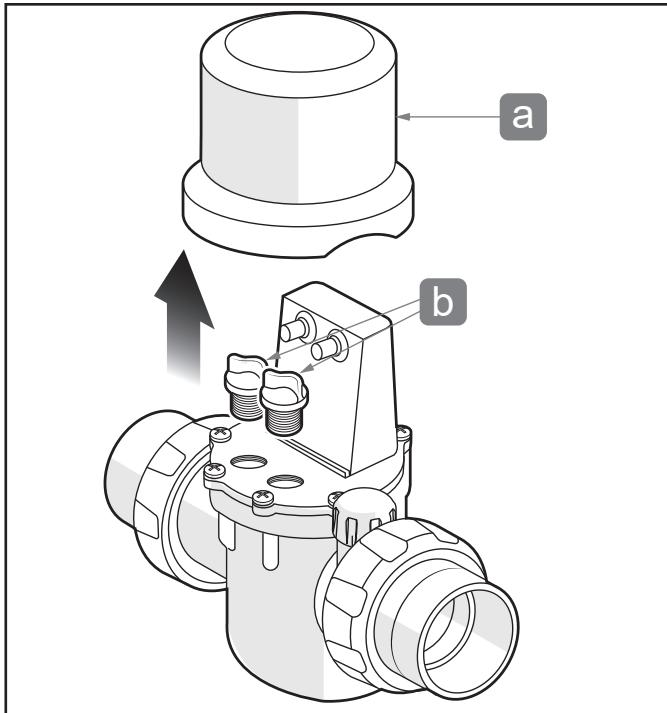

Figure 2. Remove Cap and Plugs
3. Remove Jandy TruSense top cover, see Figure 2(a).
4. Unscrew and remove sensor plugs, see Figure 2(b).